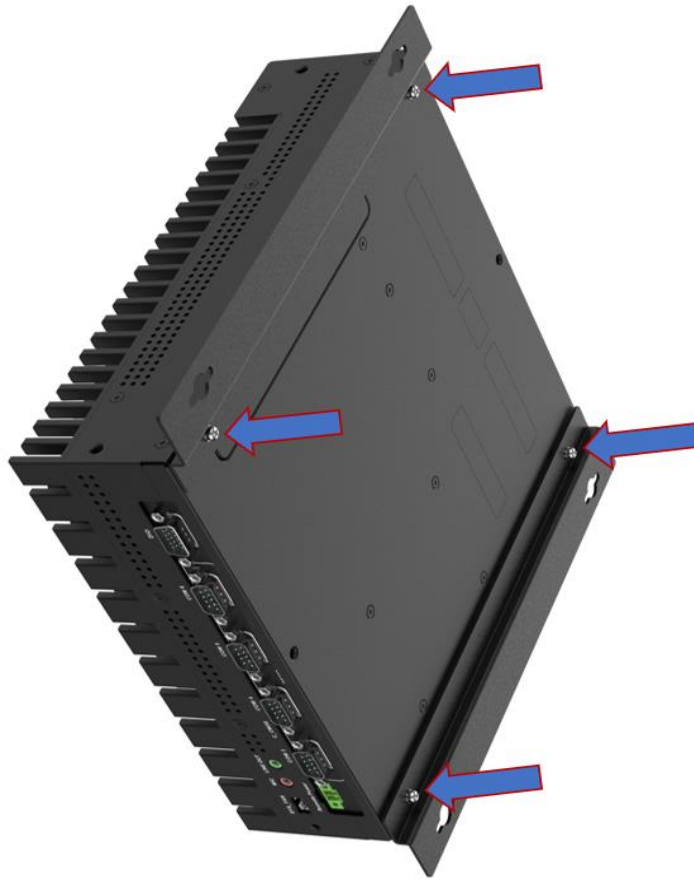

Figure 3-14: Mounting Bracket Retention Screws
- Step 3:** Secure the brackets to the system by inserting retention screws into each bracket (**Figure 3-14**).